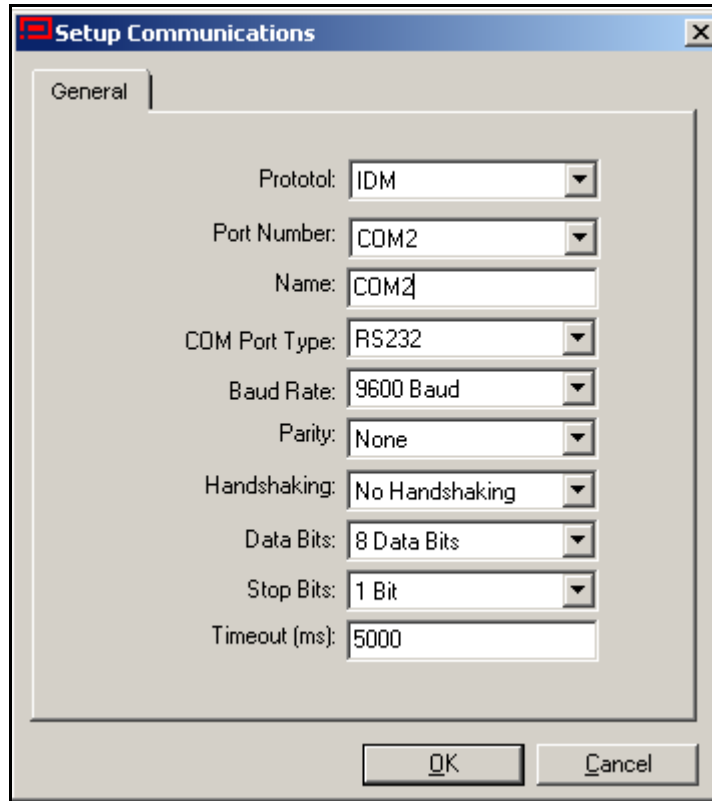

Figure 78: Setup Communications Screen
4. Click on the "Communications Port" option to select it. The *Setup Communications* screen appears similar to *Figure 78* below.